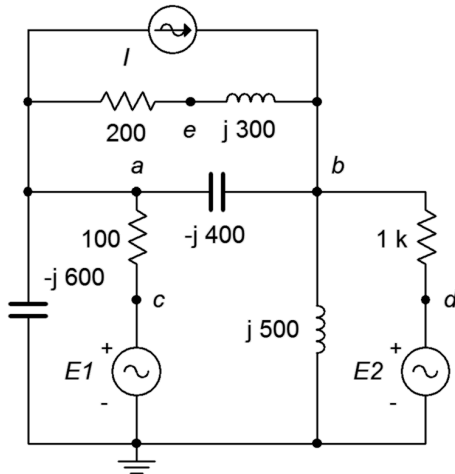

Figure 6.28
62. Given the circuit in Figure 6.28, write the node equations. $E1 = 50\angle 0^\circ$, $E2 = 35\angle 120^\circ$, $I = 500E^{-3}\angle 90^\circ$.
63. Given the circuit in Figure 6.28, use either mesh or nodal analysis to determine v_{ed} . $E1 = 9\angle 0^\circ$, $E2 = 12\angle 0^\circ$, $I = 50E^{-3}\angle 0^\circ$.